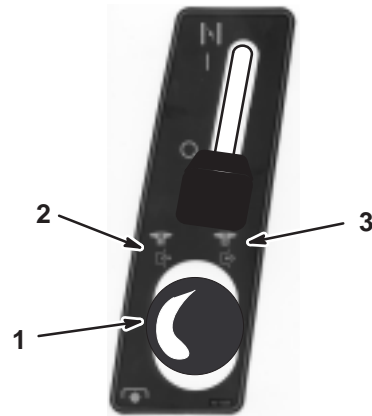

Figure 4
2. Pull the blade control (PTO) knob out to the Engaged position (Fig. 4).
2. Push the blade control (PTO) knob into the Disengaged position (Fig. 4).